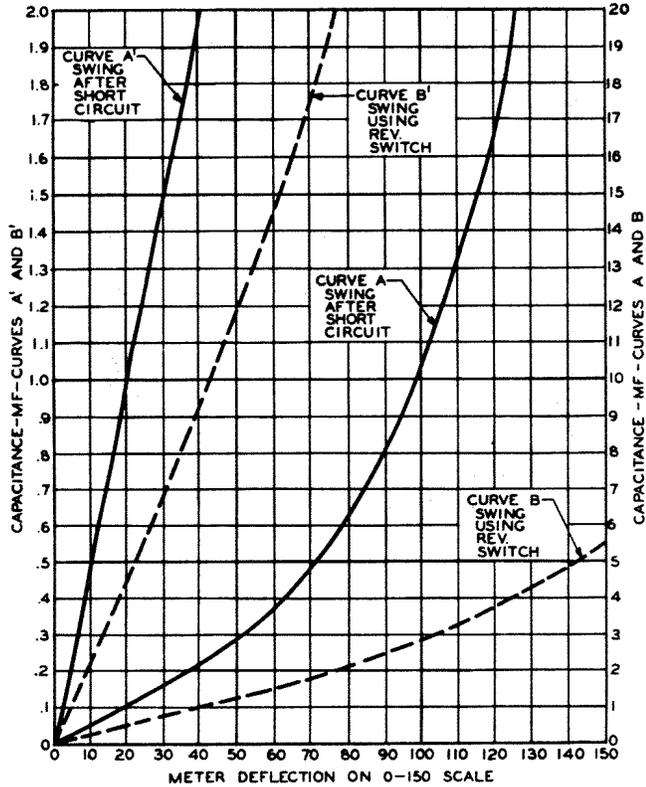
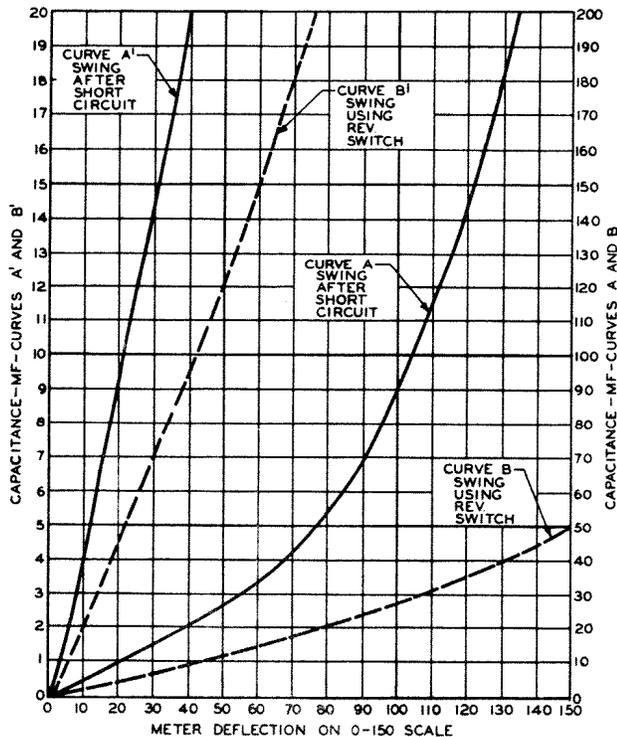
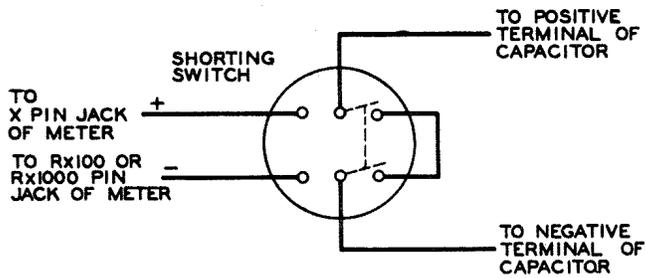
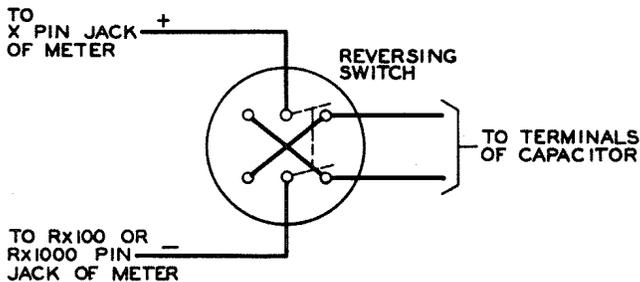

Fig. 6 - Capacitance Measurement - Smaller Values - Using X and Rx1000 Jacks
Fig. 7 - Capacitance Measurement - Larger Values - Using X and Rx100 Jacks
Fig. 8 - Wiring of Shorting Switch
Fig. 9 - Wiring of Reversing Switch
3.15 General Method. In measuring capacitance, the resistance measuring portion of the M9B Meter circuit is used, with the test leads connected to the X and Rx1000 pin jacks for the lower capacitance values or to the X and Rx100 pin jacks for higher values. The maximum swing of the pointer at the instant of connection to the capacitor is read on the 0-150 scale on the upper part of the meter dial. This scale reading is then converted into capacitance in microfarads by use of the curves in Fig. 6 or 7. Several repetitions of the swing generally are required for
accurate reading. The test may be made by either of two methods; by short-circuiting the capacitor to fully discharge it and then making connection to the meter; or, by reversing the polarity of the connections from the meter to the capacitor, without intermediate discharge of the capacitor. The latter method requires the use of an auxiliary switch inserted in the connections between the meter and capacitor as shown in Fig. 9. When the short-circuiting method is followed, no auxiliary switch is required; however, if desired, a switch may be used in the test leads to discharge the capacitor and then reconnect it to the meter, in order to simplify the procedure (see Fig. 8). The reversing switch method, covered in Paragraph 3.18, should not be used for electrolytic capacitors, since a single polarity should be used when testing this type of capacitor; that is, the (+) or X terminal of the meter should always connect to the (+) terminal of the capacitor. When using the reversing method, the magnitude of the pointer swing is approximately double that obtained after shorting the capacitor. The dotted curves B and B' in Figs. 6 and 7 are provided for use when the reversing switch is employed, and solid curves A and A' when the short-circuiting switch is used.
3.16 The table below summarizes the connections which may be used for various values of capacitance, and the curves which are applicable for the testing procedure used. The A' and B' curves in both Figs. 6 and 7 correspond to the lower portions of the A and B curves respectively, but are plotted on a larger scale for easier and more accurate reading of the smaller values of capacitance. It is therefore preferable to use curves A' or B' if the pointer swing is low enough to be read on them.
- (1) For higher capacitance measurements, use the X and Rx100 pin jacks; for lower capacitance measurements, use the X and Rx1000 pin jacks (see Paragraph 3.16).
- (2) Set the meter switches to their DC and RES positions, connect the test cords to the meter jacks to be used and adjust the setting of the BATTERY ADJUSTMENT knob for zero reading on the resistance scale (as covered in Paragraph 3.09).
- (3) Connect the test lead from the X pin jack to one terminal of the capacitor (if the capacitor is electrolytic, connect this lead to the positive terminal).
- (4) With the other test lead disconnected from the meter, connect its clip end to the other capacitor terminal (negative, if capacitor is electrolytic).
- (5) Then, quickly insert the other terminal of this test lead into the Rx100 or the Rx1000 pin jack, at the same time watching the meter needle to determine its maximum swing. If this connection is not made quickly a full swing of the pointer will not be obtained.
- (6) Read the maximum swing on the 0-150 (upper) scale and convert the reading to microfarads by use of the solid curves A or A' in Fig. 6 or 7; use Fig. 6 for connections to the X and Rx1000 jacks; use Fig. 7 for X and Rx100 connections.
- (7) To repeat the test, remove the lead from the meter Rx100 or the Rx1000 jack, touch it to the capacitor to short-circuit and discharge it, then repeat the connection to meter, as in Items (5) and (6) above.
For greater convenience in making capacitance measurements, a switch may be used to short-circuit the terminals of the capacitor before each test. A quick-acting DPDT toggle switch may be used for this purpose, wired as shown in Fig. 8. After the switch is connected to the meter jacks and to the capacitor as indicated in Fig. 8, operate the switch quickly from its short-circuit position to charge the capacitor, the charging current producing the meter pointer swing; then restore the switch to its short-circuit position to discharge the capacitor. If repetition of the swing is desired, it may be obtained by repeated operation of the switch. Otherwise, the method described in Paragraph 3.18 is followed, using the solid curves (A or A') in Fig. 6 or 7.
If desired, a reversing switch may be used with the test leads in place of the shorting switch described in Paragraph 3.19. Fig. 9 shows a snap-action double-pole double-throw toggle switch wired as a reversing switch and indicates the connections to the meter and to the capacitor. After these connections have been made, operation of the switch to either position reverses the polarity of the voltage applied to the capacitor by the meter and produces a swing of the meter pointer. Repetitions of the swing may be obtained by operating the switch back and forth until the maximum swing is ascertained. The reading obtained by this method is converted to microfarads by using the dotted curves (B or B') in Fig. 6 or 7.